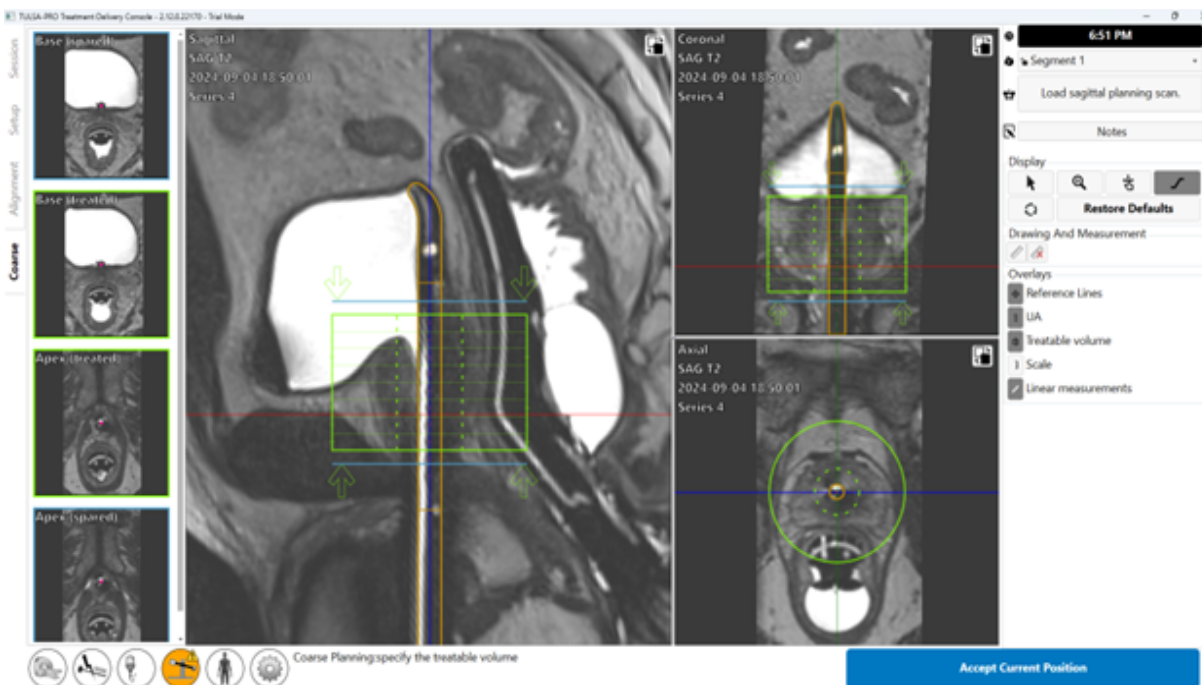

Figure 35: Coarse Planning workspace in TDC software
The treatment volume is displayed as a green rectangle on the sagittal and coronal views. Regions beyond a light blue line displayed 4 mm from the bottom and top edges of the green rectangle on the sagittal and coronal views are anatomical regions expected to be spared fully from thermal coagulation (*Figure 35*).
**NOTE:** When determining where to position the UA, identify the external urinary sphincter. If the external urinary sphincter cannot be identified, it should be considered immediately adjacent to the prostate apex. Place the light blue line (below the first element) on the external urinary sphincter (*Figure 35*).